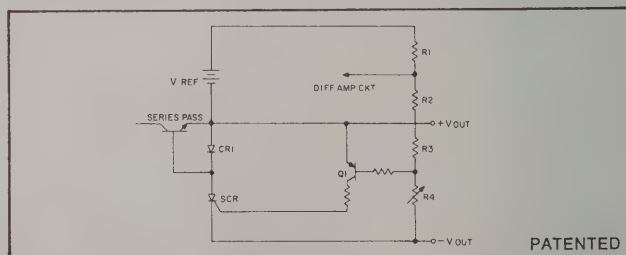

Figure 7-1. Typical Tracking Overvoltage Circuit
2. Automatic Tracking Overvoltage Protection—In this circuit, a tracking device automatically sets the overvoltage trigger point 10% (or 1.5 volts) above the programmed output of the power supply.* Thus, protection is maintained automatically over the entire voltage output range without the necessity of overvoltage trigger point readjustment. This feature is applicable even in remote programming applications. Special precautions must be utilized when rapidly "down" programming since this will appear as an overvoltage condition. Figure 7-1 illustrates a typical tracking overvoltage circuit.